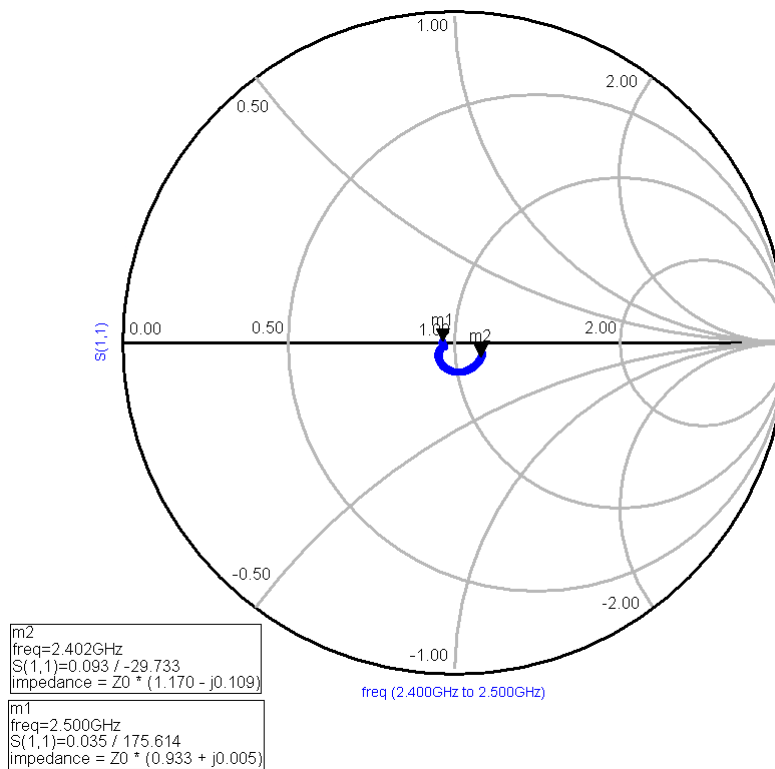

Figure 4. TX and RX Pin 50Ω Impedance Characteristics
(1) Typical operating conditions are at 3.3V operating voltage and 25°C ambient temperature.
(2) The receiver sensitivity is measure at the device interface.
(3) The f₀ = -64 dBm Bluetooth modulated signal, f₁ = -39dbm sine wave, f₂ = -39 dBm Bluetooth modulated signal, f₀ = 2f₁ - f₂, and |f₂ - f₁| = n × 1MHz, where n is 3, 4, or 5. For the typical case, n = 3.
(4) Reference Smith chart Figure 4.
(4) Modulation index set between 0.28 and 0.35.
(5) Not tested in production.
(6) Out-of-Band spurs only exist at 2nd and 3rd harmonics of the CW frequency for each channel. Performance of the radio is significantly better than BT 1.1 specification.
(7) Reference Smith chart Figure 4.